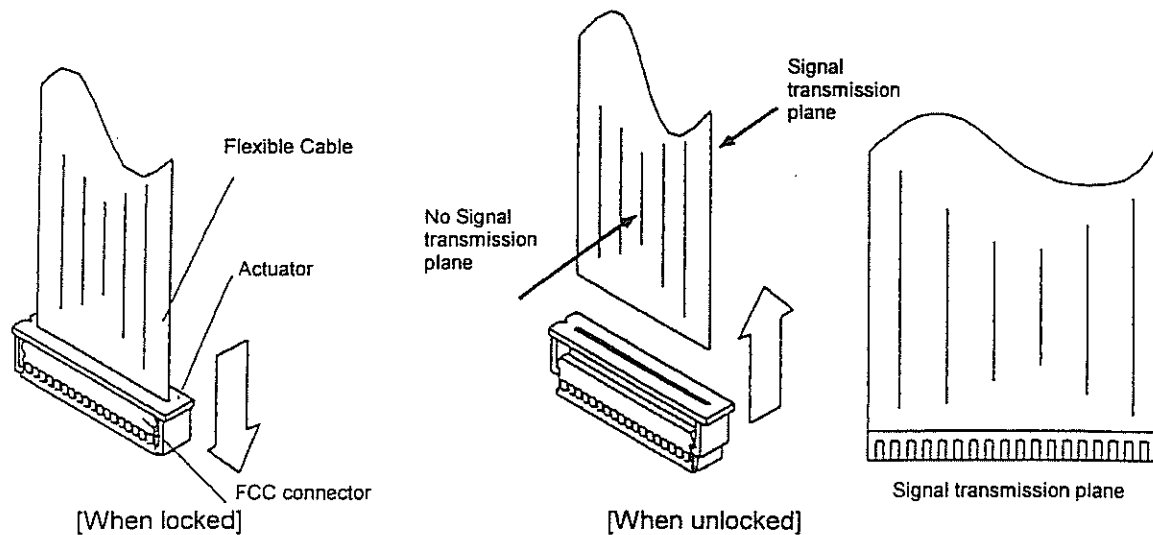

Figure 3-35 Removal of Flexible Cable
*Caution: Remove the cable from the connector only after sliding the actuator toward the arrow, and unlocking. Never forcibly pull out the cable. Otherwise it may be damaged. (Refer to Fig. 3-35.)*
*Caution: The cable has both signal transmission and no signal transmission planes. When inserting the cable into the FFC connector, pay attention to the direction of cable. After inserting the cable, make sure to lock it. (Refer to Fig. 3-35.)*